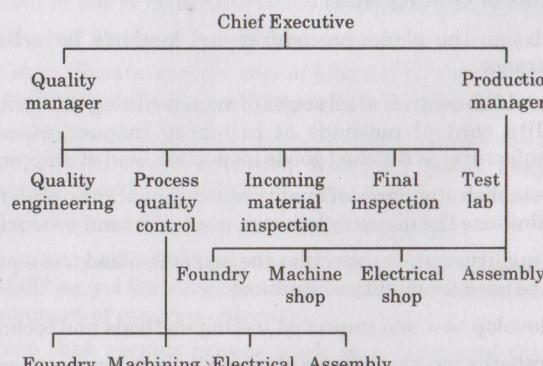

Fig. 2.3.1.
- A single product oriented quality engineering group will be more effective and economical as shown in Fig. 2.3.1.